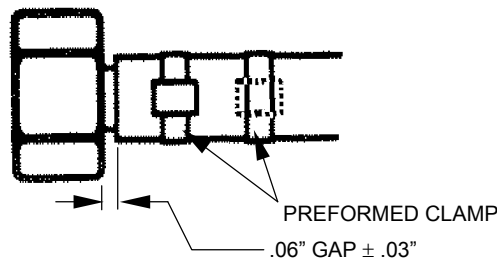

Figure 3-5. Barbed Hose Connection for Hot Water Hose
b. Installation of Barb Fittings (see Figure 3-5):